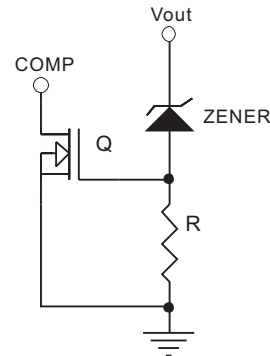

Figure 5: Use External Zener
- (2) Use external zener to clamp the output peak voltage (See Figure 5).